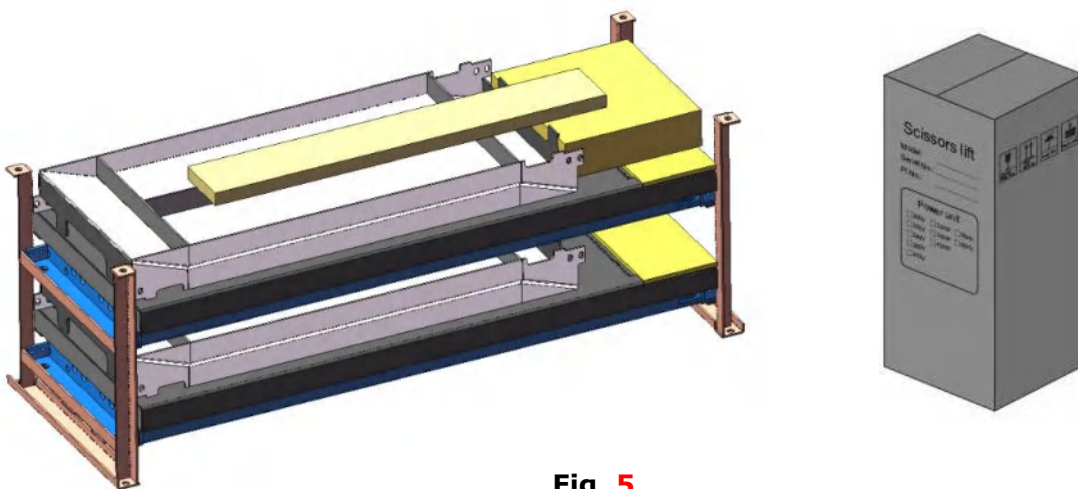

Fig. 5
1. Packaged lift, part box, control cabinet (See Fig. 5).